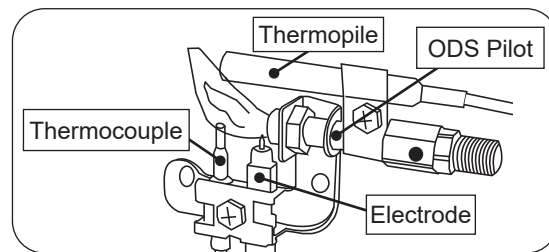

Fig. 25-3 ODS Pilot assembly detail
3. Locate the pilot assembly on the burner system (see Fig. 25-3).